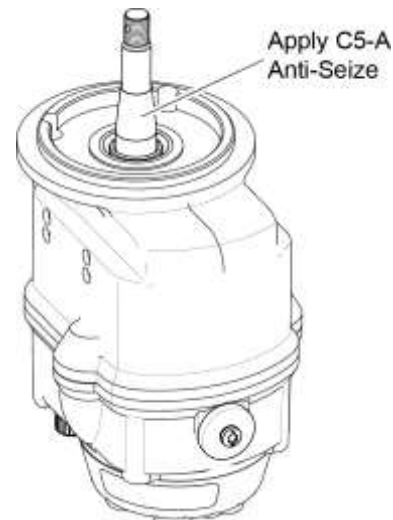

Figure 12
- (1) Apply a light coat of C5-A Copper-Based Anti-Seize compound to the tapered section of the magneto driveshaft (Figure 12).
- (2) Install the magneto gear or impulse coupling (whichever is applicable) on the magneto driveshaft.
- (3) Remove excess anti-seize compound from the magneto driveshaft.
- (4) Install the gear nut on the magneto drive shaft. Torque the gear nut per the magneto manufacturer's instructions.
- (5) Install a new cotter pin through the nut and magneto driveshaft. Bend the top prong on the cotter pin over the driveshaft and bend the bottom prong of the cotter pin down.
- (6) Verify the magneto direction of rotation as per the magneto data plate.